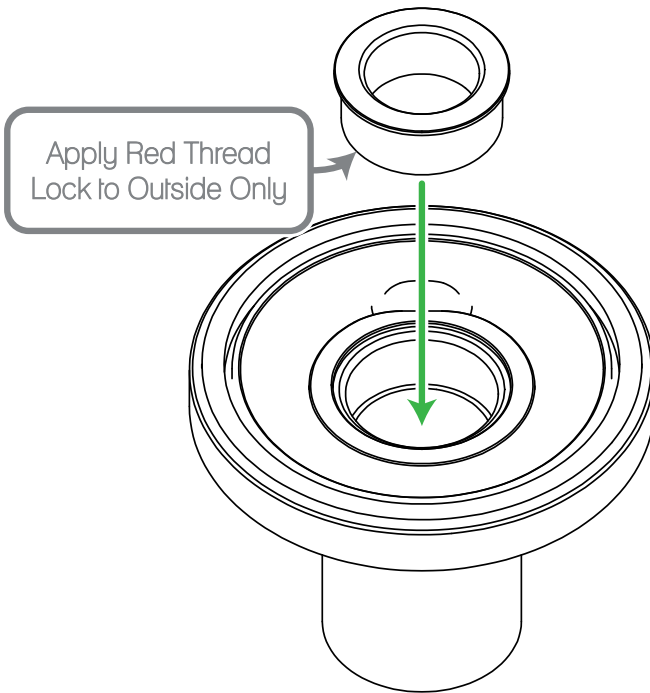

Figure 3 - Installing the Oil Filter Screw Adapter
2. Optional: Apply red thread lock, such as Loctite 263, onto HNT-500X as Figure 3 shows.